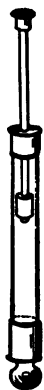

FIG. 55.—
90. Heat due to Compression. We saw in Section 89 that whenever the pressure exerted upon a gas is increased, the volume of the gas is decreased ; whenever the pressure upon a gas is decreased, the volume of the gas is increased. If the pressure is changed very slowly, the change in the temperature of the gas is imperceptible ; if, however, the pressure is removed suddenly, the temperature falls rapidly, or if the pressure is applied suddenly, the temperature rises rapidly. When bicycle tires are being inflated, the pump becomes hot because of the compression of the air. The heat due to compression can be shown very strikingly by means of the fire syringe. Dip a piece of absorbent cotton in carbon bisulphide, and shake the cotton in a tube (Fig. 55) so that a small amount of the carbon bisulphide gets into the tube, then insert the piston and compress the air suddenly. So high temperature is developed by the sudden compression of the air that a flash from the carbon bisulphide is produced.